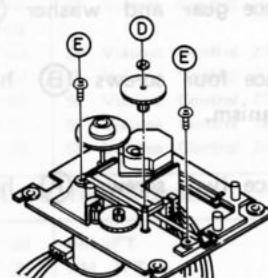

Figure 9
4. Remove washer **(D)** holding the gear and remove the gear. (See Figure 9.)
5. Remove two screws **(E)**. (see Figure 9.)